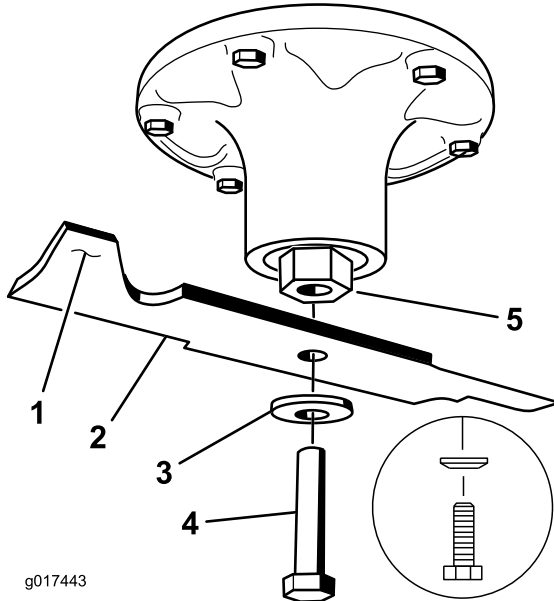

Figure 78
2. Remove the blade bolt, curved washer, and blade from the spindle shaft (Figure 78).